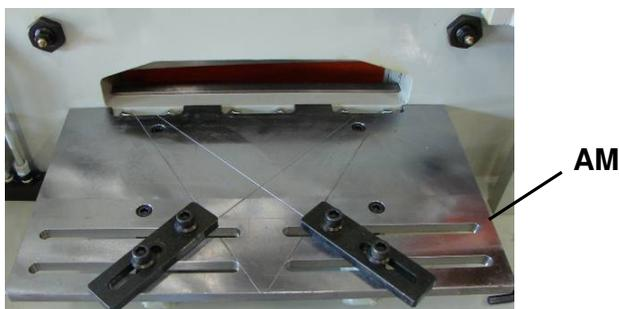

figure 6
- 4) Remove the hold down plate (**U**) and the feed table (**AM**). (fig. 6)